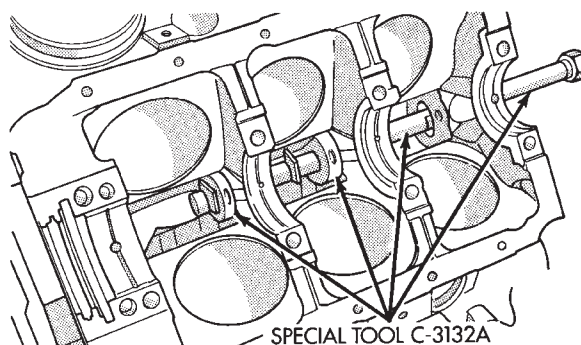

Fig. 36 Camshaft Bearings Removal and Installation with Tool C-3132-A
(1) With engine completely disassembled, drive out rear cam bearing core hole plug.
(2) Install proper size adapters and horseshoe washers (part of Camshaft Bearing Remover/Installer Tool C-3132-A) at back of each bearing shell. Drive out bearing shells (Fig. 36).